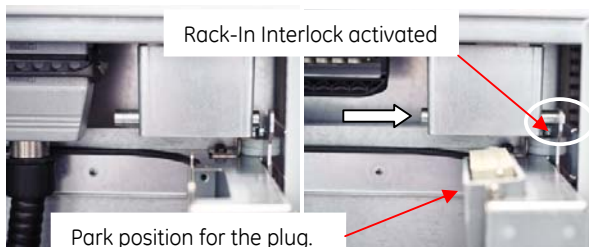

Fig. 71-7 Operation of Rack-in Interlock
After removing the plug, both interlocks move to the right and reset. This enables withdrawal operation and blocks rack-in operation as shown at Fig. 71-7.
3. Open the trolley's door and disconnect the Secondary Disconnect. Hang it on the frame to the right (Fig. 71-7). Now the trolley is at the DISCONNECTED position.
3. Open the trolley's door and disconnect the Secondary Disconnect. Hang it on the frame to the right (Fig. 71-7).